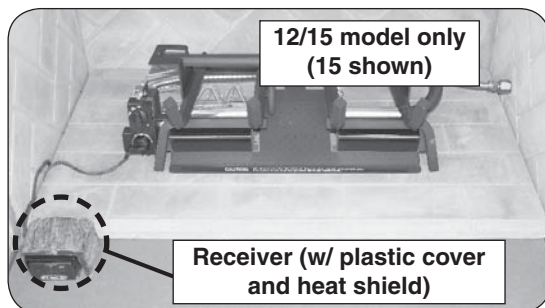

Fig. 18-4 Place remote receiver
3. **Place the remote receiver at the front left corner of the fireplace.** Place as far from the burner system as possible. See Fig. 18-4.
4. Place the plastic cover over the remote receiver with the open side facing forward to allow access to the receiver controls. Then place the decorative heat shield. See Fig. 18-4.